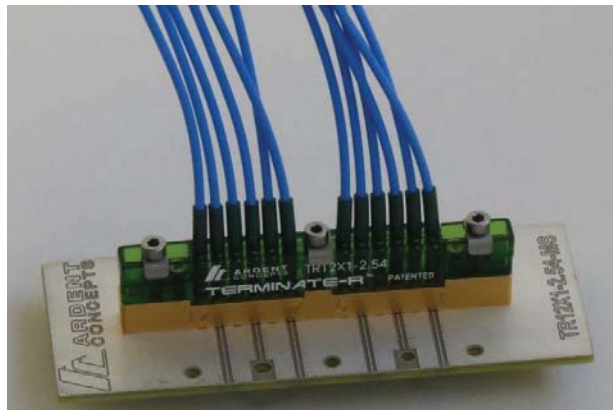

Figure 9: Mounted TR Assembly Complete
- NOTE: There will be a noticeably large resistance to turning the screws when they are fully tightened (See Figure 9).